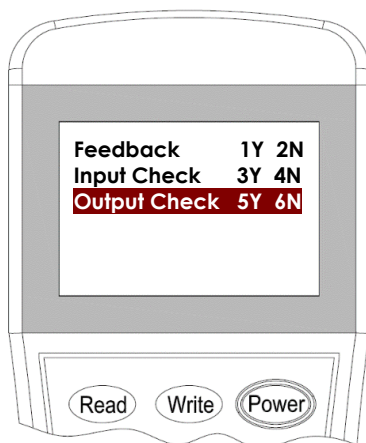

Figure 15
4. Input the **“5”** for **Check** mode then press **“Write”** to change the setting (Figure 15).